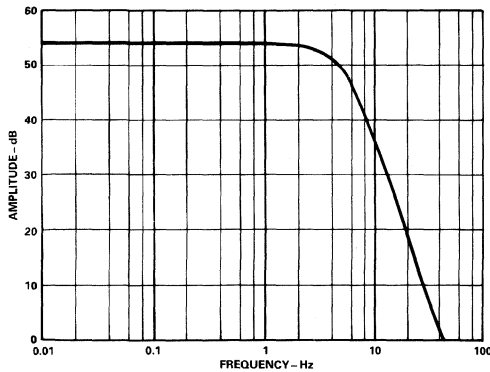

Figure 10. Filter Amplitude Response vs. Frequency, G = 500
**Low-Pass Filter:** The 1B32 has three poles at 4Hz in its design. One is introduced in the amplifier, while the other two are provided by an active Butterworth filter following the amplifier. Total roll-off is 60dB/decade from 4Hz. The frequency response of the filter is shown in Figure 10.